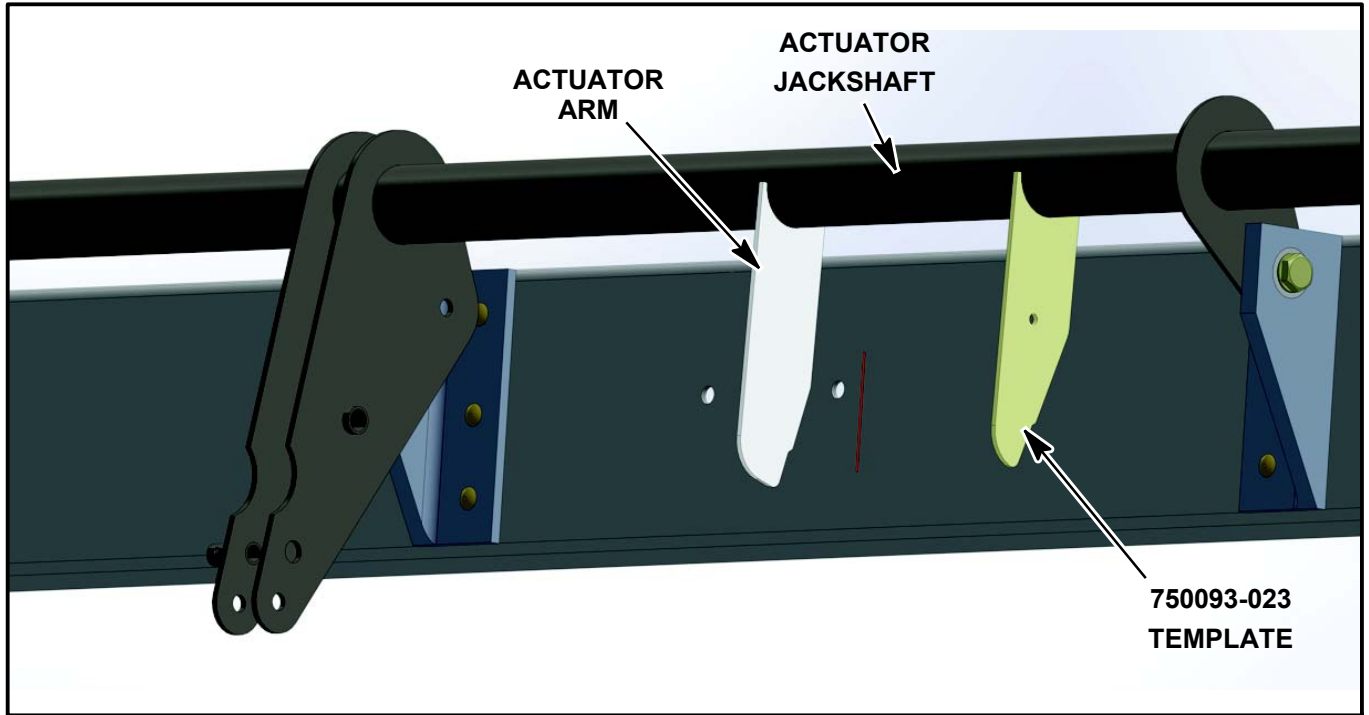

Figure SIM20-142-08 - POSITION 750093-023 TEMPLATE TO FLAP ACTUATOR JACKSHAFT
- 1.10. Butt the aft edge of template p/n 750093-023 to the jackshaft. (Refer to Figure SIM20-142-08.)